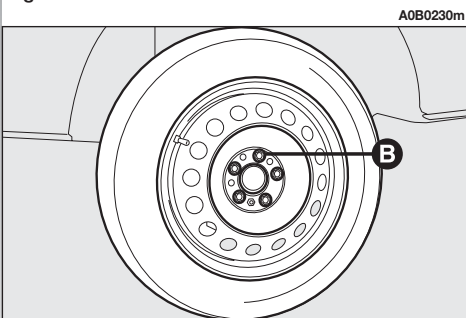

fig. 4
- Loosen the fastening bolts by approx. one turn (B-fig. 4).
- Completely unscrew the bolts (B-fig. 4), and remove the wheel.